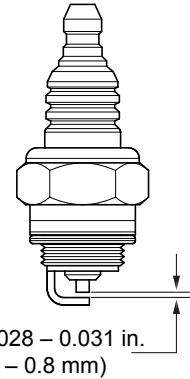

Figure 39. Spark Plug
1. Remove the spark plug (Figure 39) and clean it with a wire brush if it is to be reused. Replace the spark plug if the insulator is cracked or chipped.
2. Using a feeler gauge, adjust the spark plug gap (Figure 39). The gap should measure 0.028–0.031 inch (0.7–0.8 mm).